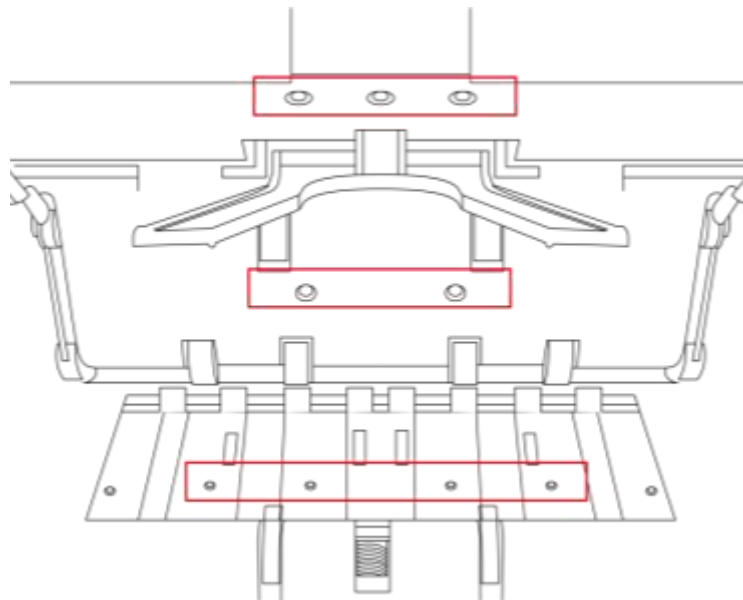

Figure 134
2) Clean each sensor in the red box in Figure 134 below with a clean brush.